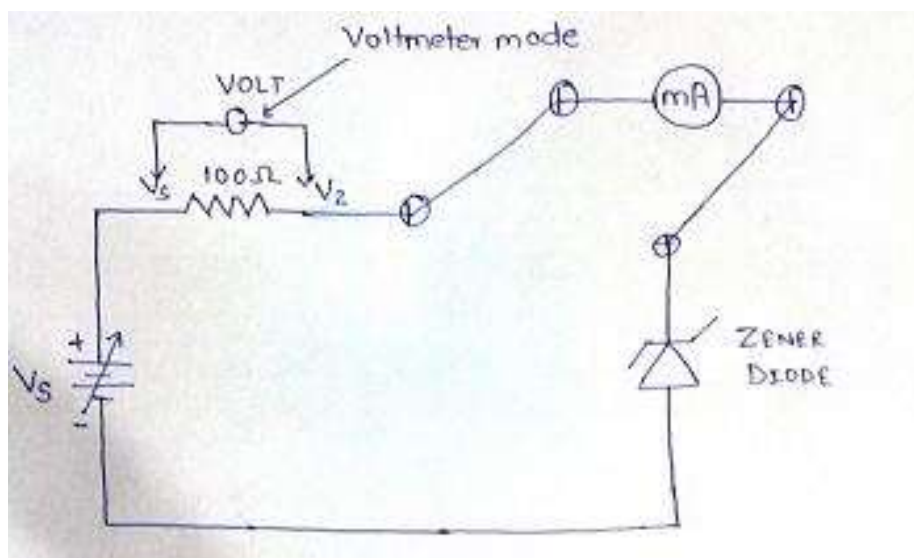

Fig.1a. Connection diagram reverse biased zener diode. Range 10V.
1. Connect the given diode as shown in fig.1a. Identify the voltage polarity meter and diode polarity. Select voltmeter range to 10V. Select mode switch towards V_Z mode.